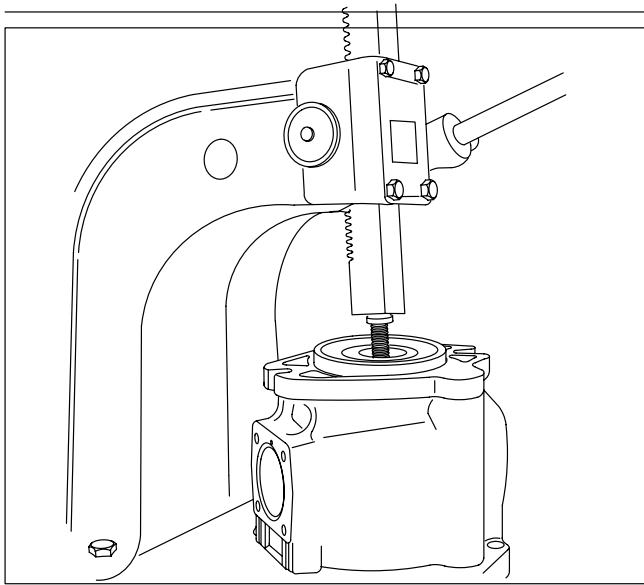

Figure 16. Removal of Front Bearing Race.
18. Remove bearing race (62) from housing (27) as shown in Figure 16. Use special tool shown in Figure 10.